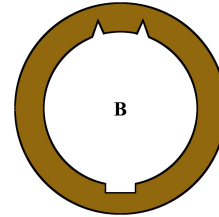

Figure 3
- **Step 17** Modify one of the two CR-2050 rings with two "V" notches, as shown in Fig. 3 above.